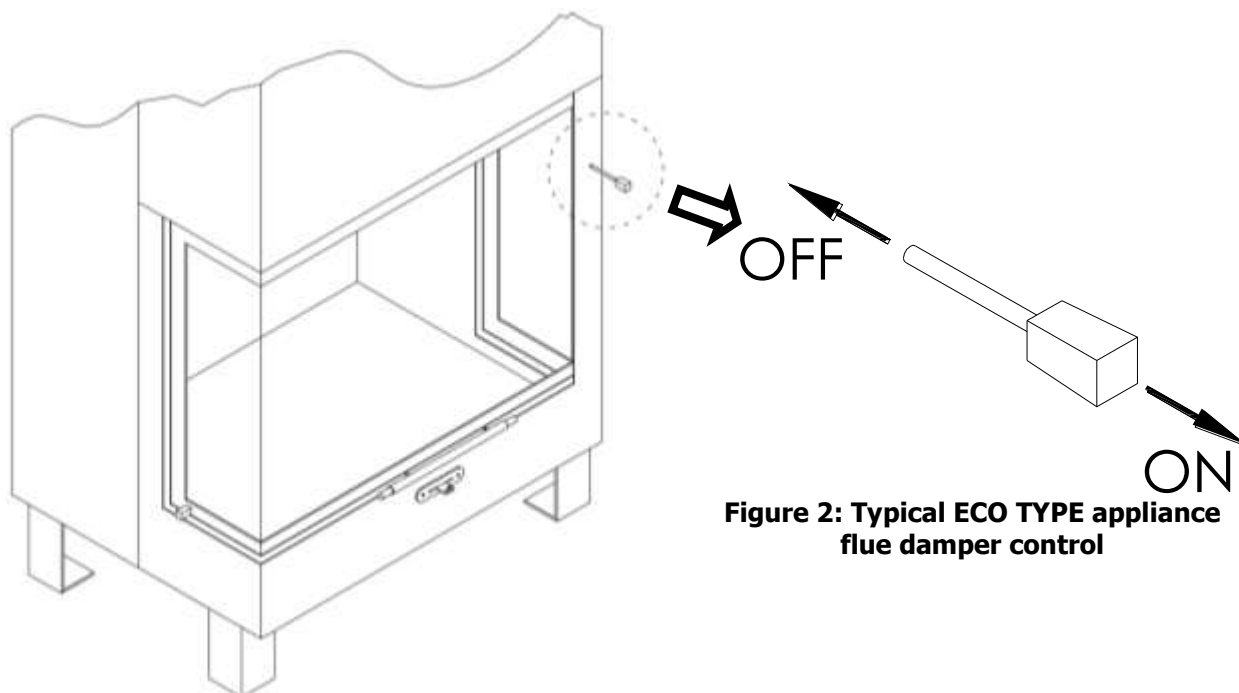

Figure 2: Typical ECO TYPE appliance flue damper control
- Push the flue damper control to the closed position (see Figure 2).